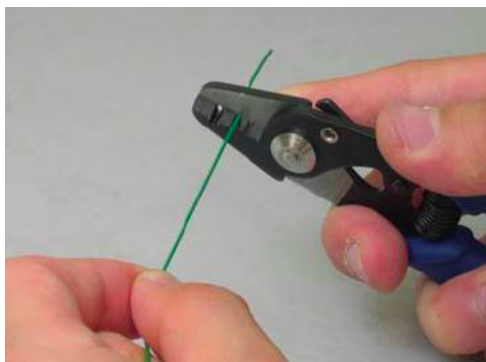

Figure 9. Step 1 of the fiber preparation.
1. Remove approximately 30-40mm of the coating, as shown in the Figure 9.